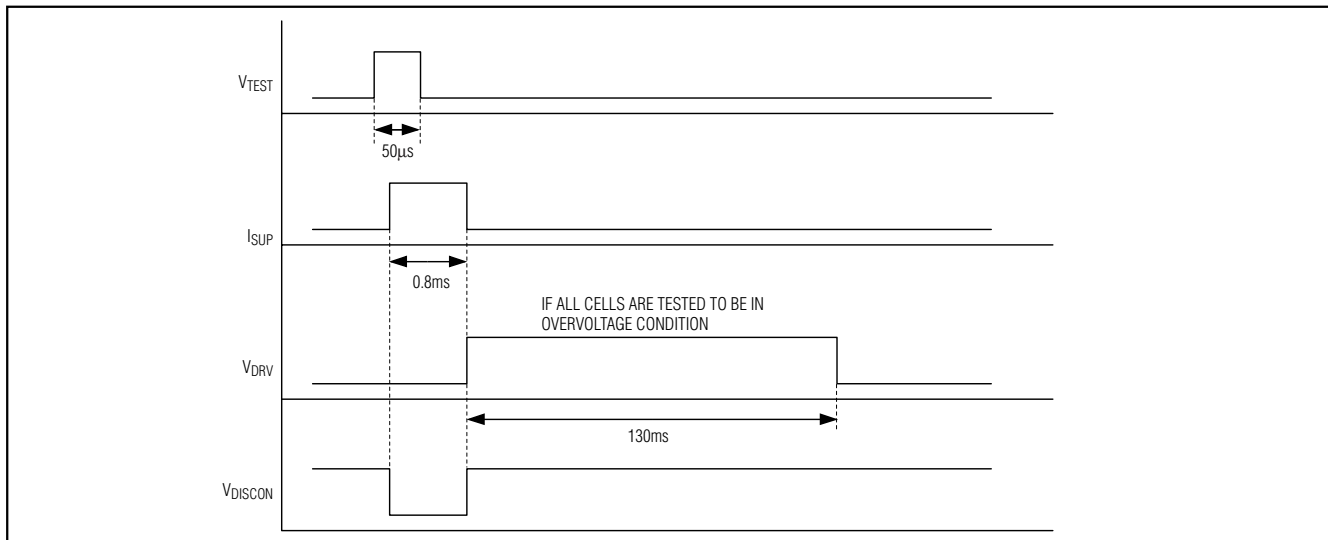

Figure 7. Timing Diagram for Test Mode
**Note 4:** See Figure 7.
high and the DISCON pin is set to its high-impedance state. After 130ms, the DRV pin is pulled low by the MAX1906, exiting the test mode. The time period of 130ms has been chosen not to stress the three-terminal protection fuse if an external MOSFET is used to blow the fuse. The OUT pin is not affected by the test mode. See the timing diagram for the test mode in Figure 7.